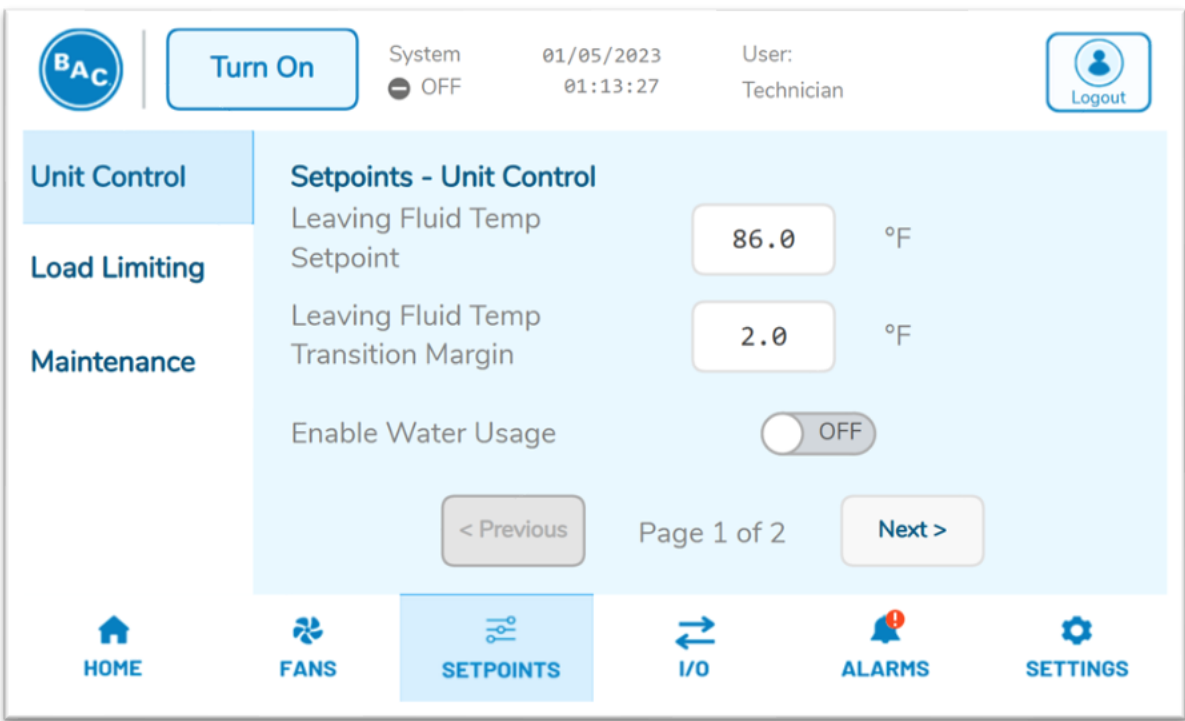

Figure 7. LFT Setpoint
1. Press SETPOINTS on the Main Menu at the bottom of the screen. The screen shown in **Figure 7**. LFT Setpoint will appear.
To use the wet mode of the unit, ensure that the Water Usage (see Figure 7) is set to “ON”. By default, this setting is “OFF.”